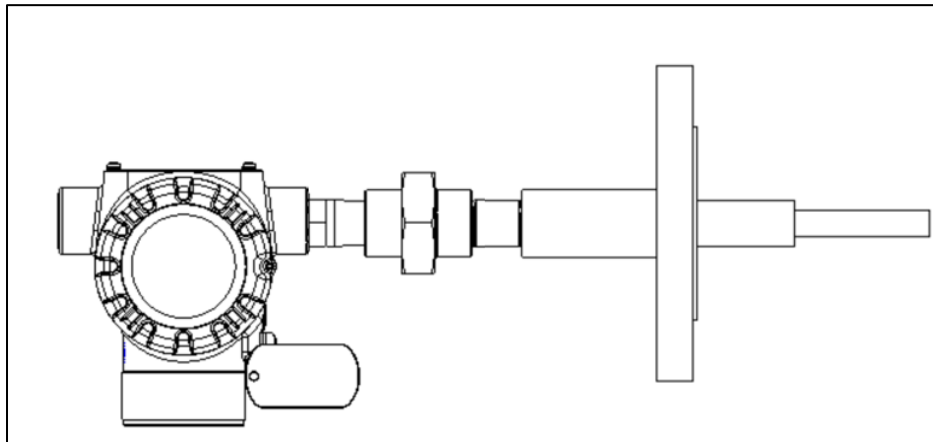

Figure 7: Transmitter with Flanged Thermowell
- 3) Drilled Flanged assembly with thermowell and extension (Figure 7)